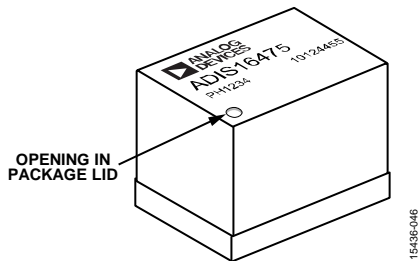

Figure 50. Pressure Relief Hole
- The hole in the top of the lid (see Figure 50) provides venting and pressure relief during the assembly process of the ADIS16475. Keep this hole clear of obstruction while attaching the ADIS16475 to a PCB.